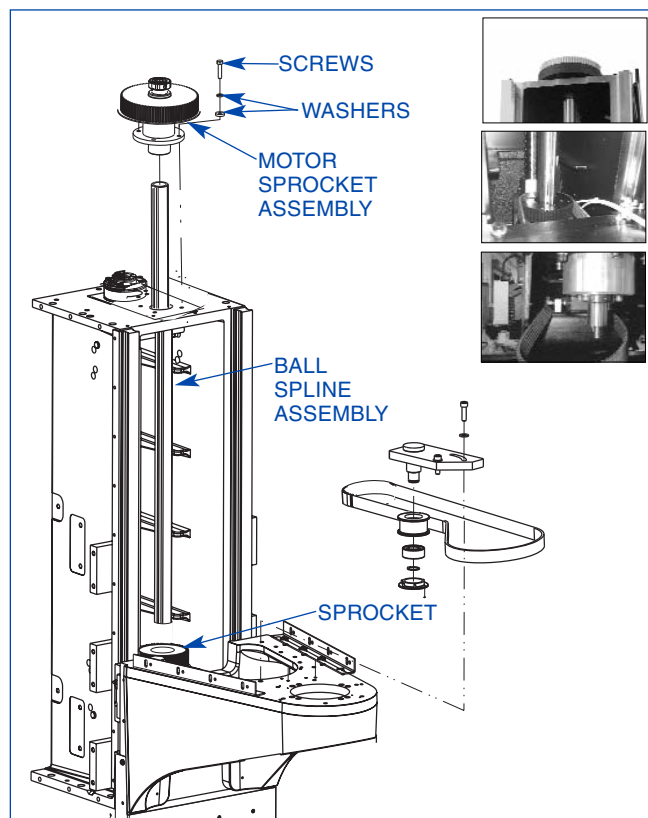

FIGURE 4-7, Lower Spindle Belt
5. Remove Motor Sprocket Assembly, by removing four (4) Screws and Washers securing assembly to upper Deck by access through top pulley (*see Figure 4-7*).
6. Slide Ball Spline Assembly out of lower Sprocket (*refer to Figure 4-7*). Block upper assembly as required.